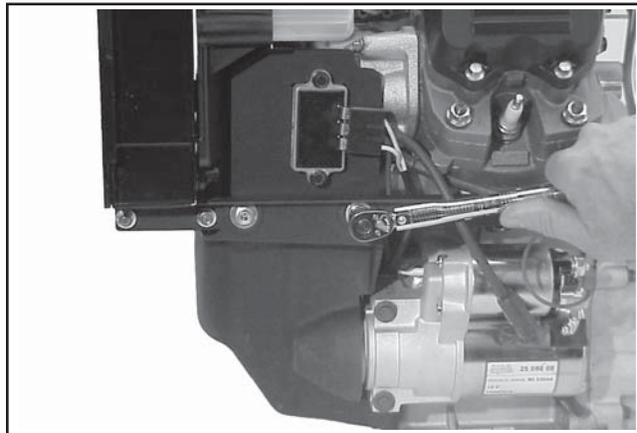

Figure 11-120. Torquing Lower Screws and Rectifier-Regulator Mounting.
3. Align the lower flywheel cover with the #1 (starter) side lower radiator support bracket holes. Position the rectifier-regulator mounting plate, behind the cover and install the remaining two screws or nuts and flat washers. Torque the four fasteners to **9.9 N·m (88 in. lb.)**. See Figure 11-120. If screws and Timmerman nuts/clips are used torque to **2.2-2.8 N·m (20-25 in. lb.)**.
4. If removed, mount the rectifier-regulator to the plate with the two screws and attach the connector plug. See Figure 11-120.